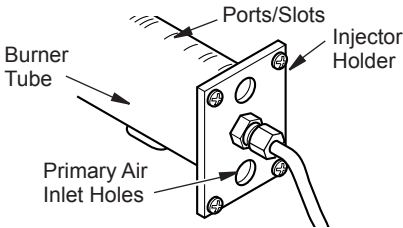

Figure 28 - Injector Holder On Outlet Burner Tube
2. Inspect burner, pilot and primary air inlet holes on injector holder for dust and dirt (see Figure 28).